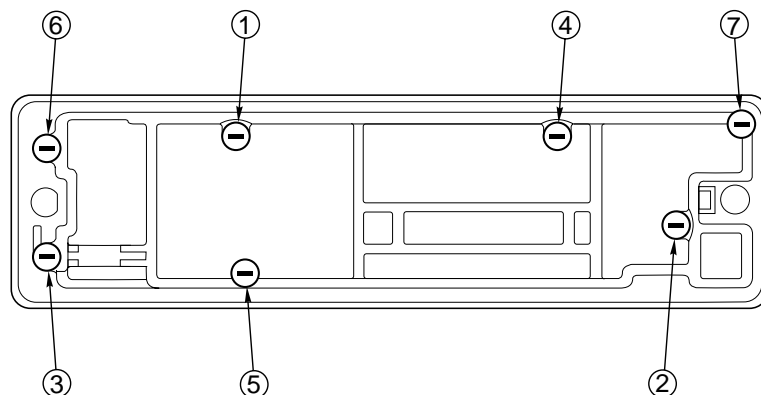

Figure 8-2. Models W5 and W7 Pushbutton Control Head Assembly Screw Sequence
- Model W5 and Model W7: seven screws, as shown in Figure 8-2.